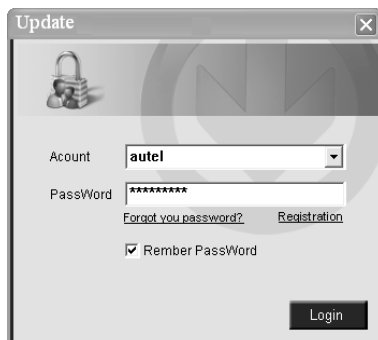

Figure 7.3
5. Run the update option in **PC Suit** software. Wait for the Log In window to pop up. (Figure 7.3)